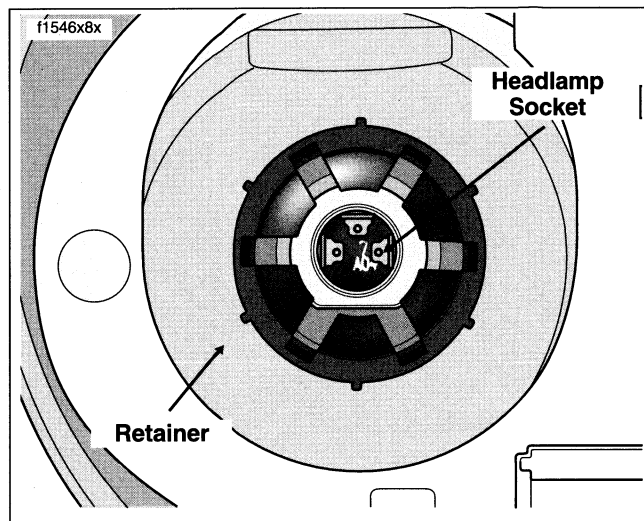

Figure 78. Bulb Retainer
6. See Figure 78. and Figure 78. Turn retainer counter-clockwise (CCW) and remove from headlamp assembly.